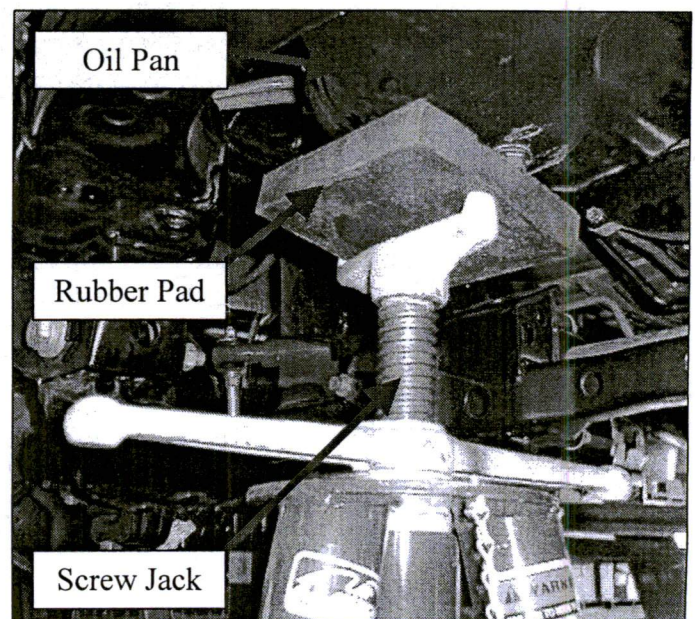

Figure 11
10. Support the engine at the oil pan with a rubber pad and a screw jack (Figure 11).